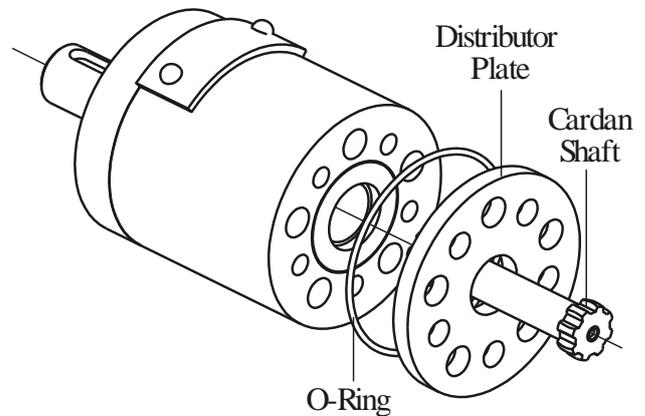

Fig. 4
7. Remove cardan shaft (see Figure 4).